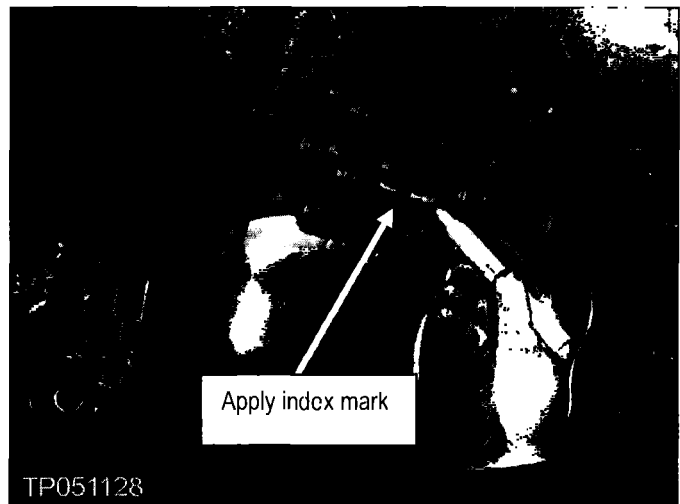

Figure 14
14. Apply an "index" (line up) mark across the propeller shaft and differential pinion flange for correct re-assembly (see Figure 14).